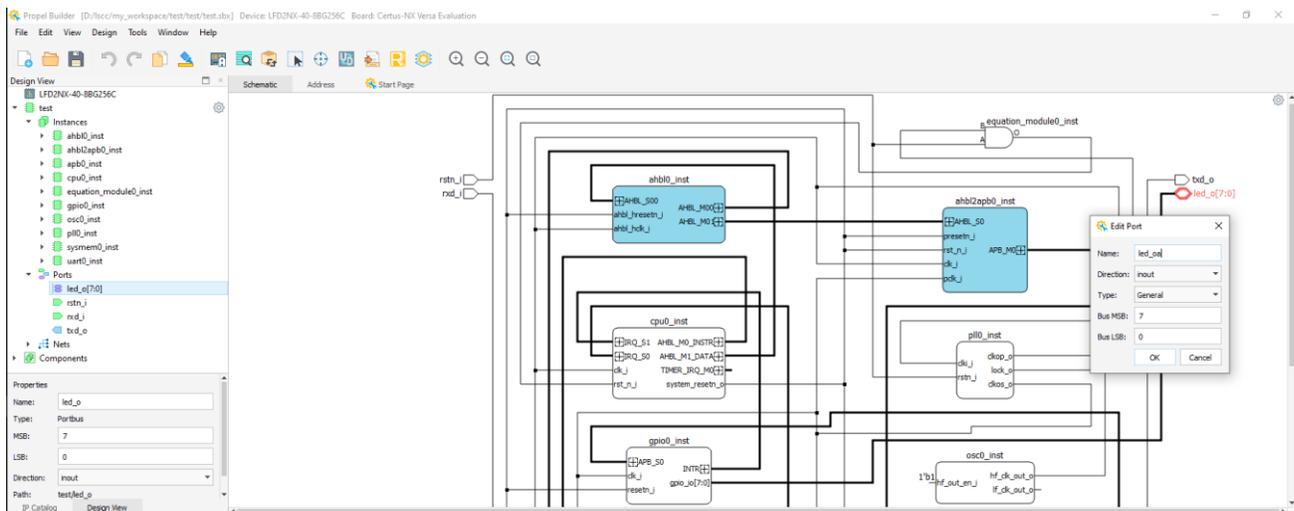

Figure 2.73. Port Edit Dialog
h. (Optional) Double click on the Port/ Portbus in schematic view, will open the port edit dialog (Figure 2.73).